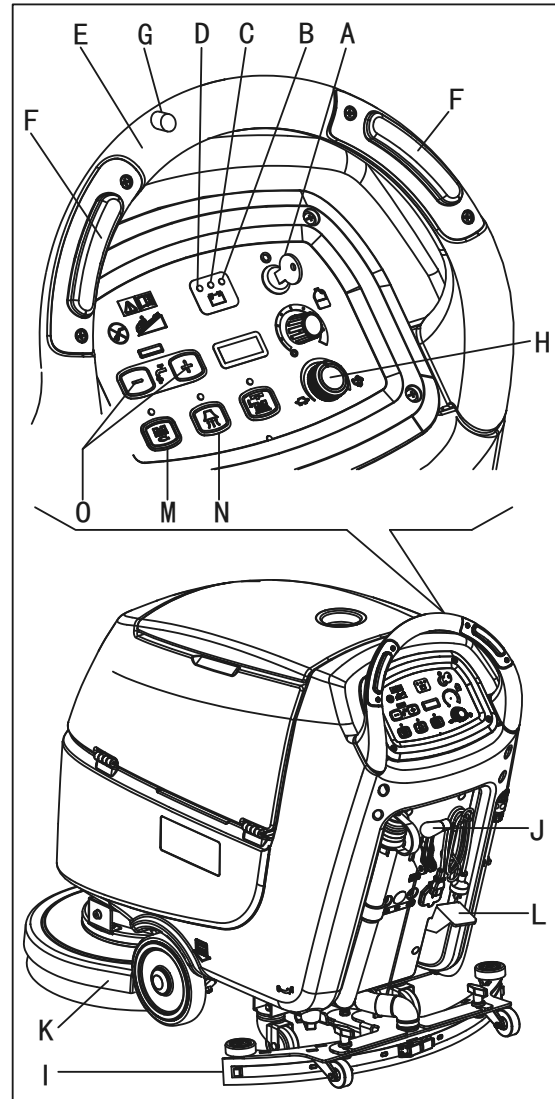

Figure 9
2. Insert the ignition key (A, Figure. 9) and turn it to "I". Check that the green warning light (B) turns on (charged battery). If the yellow (C) or red warning light (D) turns on, turn the ignition key back to "0" and charge the batteries (see the procedure in Maintenance chapter).
- By pushing it with the hands on the handlebar (E) (only for machine without traction).
- By pushing it with the hands on the handlebar (E) and pressing the switch (F) to move forward, or pressing the switch (F) together with the switch (G) to move backward (only for machine with traction). The forward speed can be adjusted with the adjuster (H).
4. Lower the squeegee (I) with the lever (J).
5. Lower the brush/pad-holder deck (K) by lifting the pedal (L). (only for disc machine)
6. Press the brush/pad-holder switch (M) and the vacuum system switch (N).
7. Press the washing water flow control switches (O) as necessary, depending on the type of cleaning to be performed.
- (only for machine without traction) by pushing the machine with the hands on the handlebar (E) and pressing the switch (F).
- (only for machine with traction) by pushing the machine with the hands on the handlebar (E) and by pressing the switch (F). If necessary, the forward speed can be adjusted with the adjuster (H).
1. Lower the brush/pad-holder deck by press the brush/pad-holder switch (M, Figure. 9)
2. While keeping both hands on the handlebar press the safety switch (F, Figure. 9), then maneuver the machine and start scrubbing/drying the floor.